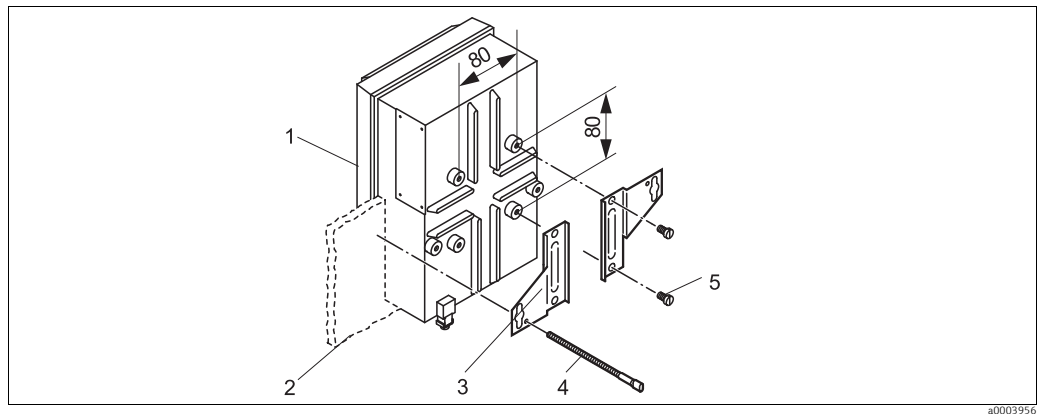

Fig. 9: Panel mounting
2. Unscrew the top housing section (item 1).
3. Secure the securing plates (item 3) to the transmitter housing base using the securing screws (item 5) in accordance with Fig. 9.
4. Secure the transmitter to the panel (item 2) using the clamping screws (item 4).